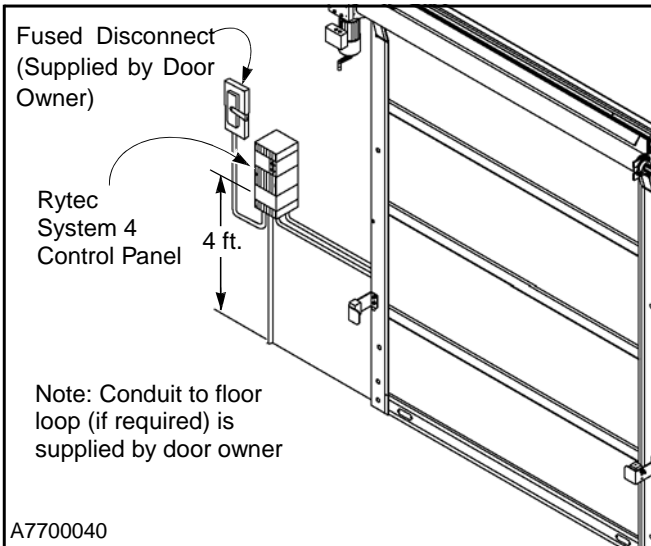

Figure 32
*NOTE:* When the cable is connected to the photo eye, there is only a 1/4-inch window to see the green or yellow LED light. (See Figure 32.)
1. Locate the Rytec control box and fused disconnect as shown in Figure 32.